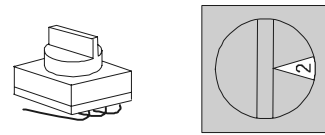
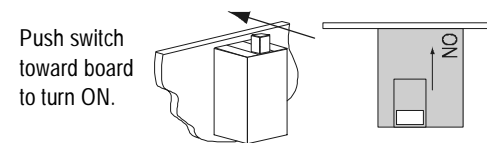
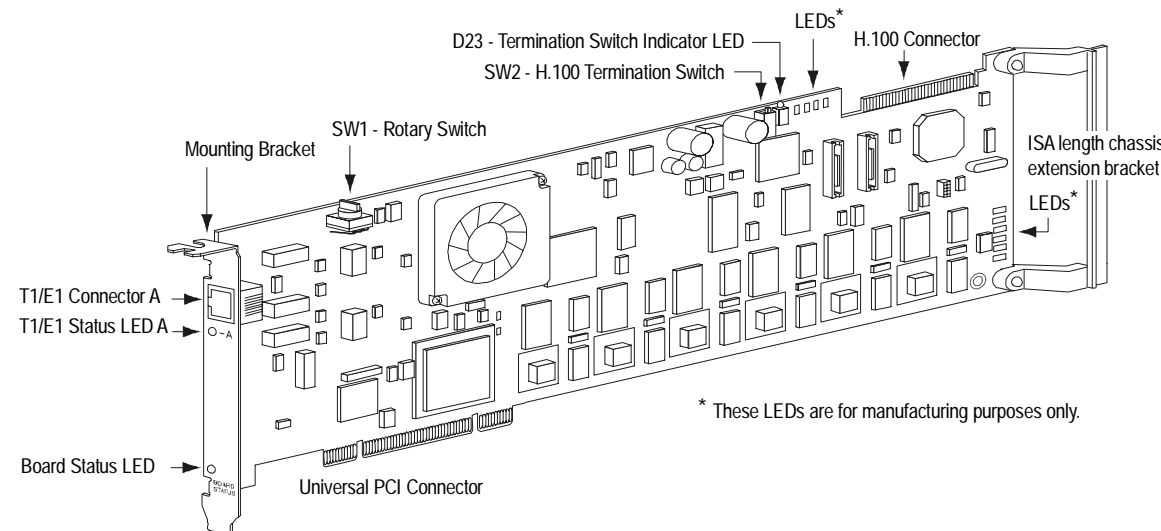

Figure 1 Rotary Switch - SW1
Figure 3 SW2 - H.100 Clock Termination Switch
Figure 4 TR1034 Digital/Ethernet PCI Board
You must set each TRxStream board to a unique module number to identify the resources associated with a specific board in a multi-board system. SW1 (Figure 1) is a rotary switch (see location in Figure 4). Use it to set the module number for each TRxStream board. The available settings are 2 - F (0 and 1 are reserved).
On a single TR1034 or on multiple TR1034 boards installed in the same chassis, leave SW2 in the OFF position. See Figure 4 for its location. Multiple TR1034 boards in the same system do not require the use of a connecting H.100 cable.
SW2 (see Figure 3) controls termination for the H.100 clock signals. Set the switch to ON to terminate the H.100 clock on a TRxStream board. See Figure 4 for its location on the board. The SW2 LED lights when SW2 is set to the ON position.
The TR1034 board comes with an extension bracket that allows it to fit snugly into an ISA form-factor chassis. If you have a PCI form-factor chassis, use a Phillips-head screwdriver to remove the extender bracket (see Figure 4).
5. Screw the board's mounting bracket securely to the computer's frame. See Figure 4.
The board status LED (see Figure 4) continuously flashes yellow when you turn the computer on.